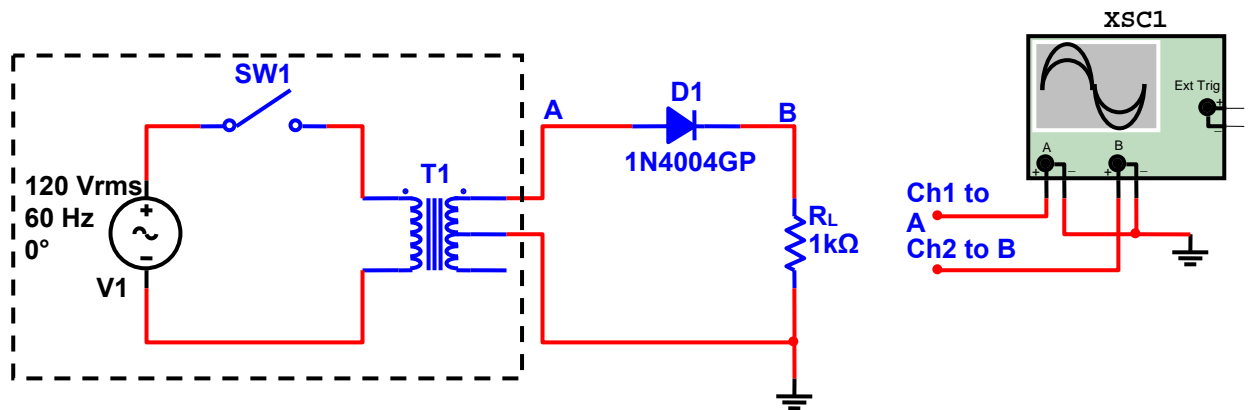

Figure 2-2
- (2) What is the maximum load current that can be drawn from this regulated supply without the output voltage dropping below the zener voltage?
- (3) What is the minimum load resistance  $R_L$  that can be applied to the output without the voltage dropping below the zener voltage?
- (4) If a load resistance of  $75\Omega$  is applied to the output, determine the power dissipation in R1, D1 and  $R_L$ . Specify the minimum power rating requirements for R1 and  $R_L$  if a safety margin of (approximately) 50% is required.
- (5) If these resistors are to be purchased in standard packages of 0.25W, 0.5W, 1W, 2W and 5W. What packages would you recommend?
- Figure 2-2: Half-Wave Rectifier Circuit (no filter cap)
- 1.1. Using the transformer box, a 1N4004 diode and a 1k $\Omega$  resistor, build the half-wave rectifier circuit shown in Fig 2-2. The 1k $\Omega$  resistor comprises the electrical load powered by this circuit. NOTE: Only one half of the transformer secondary is connected for this part of the lab.